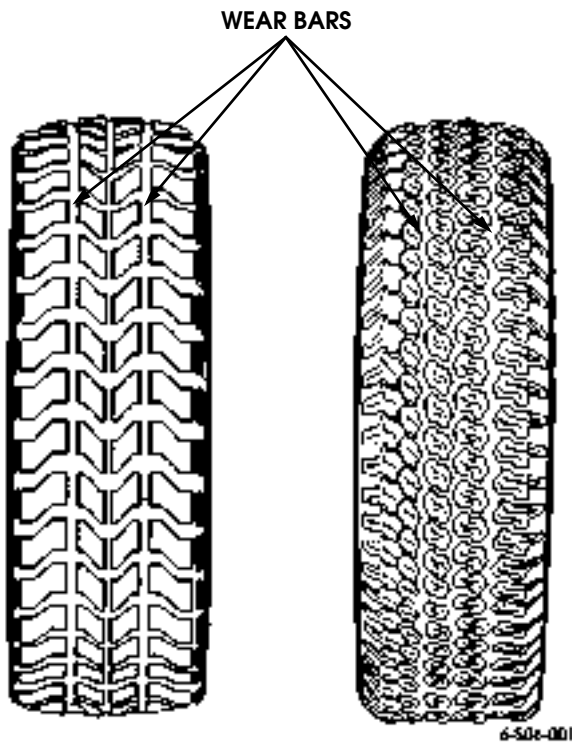

Figure 6-7: Wear Bar Identification
6. Check tread depth on tire. Tread should not be worn below level of wear bars (Figure 6-7). Markings on the sides of the tires (e.g., the letters "TWI" or a triangle) show the location of wear bars. Replace tire if tread is worn below wear bars or 3/32 inch (2.38 mm).